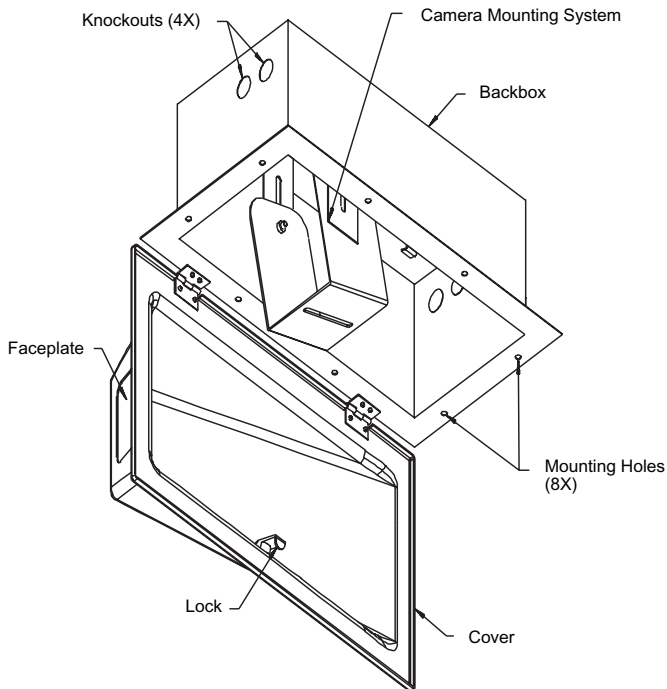

Figure 1: HS9369 & 9370 Features and Parts
2. Unlock and open the cover. Remove any packing material from the inside of the unit. See **Figure 1**.